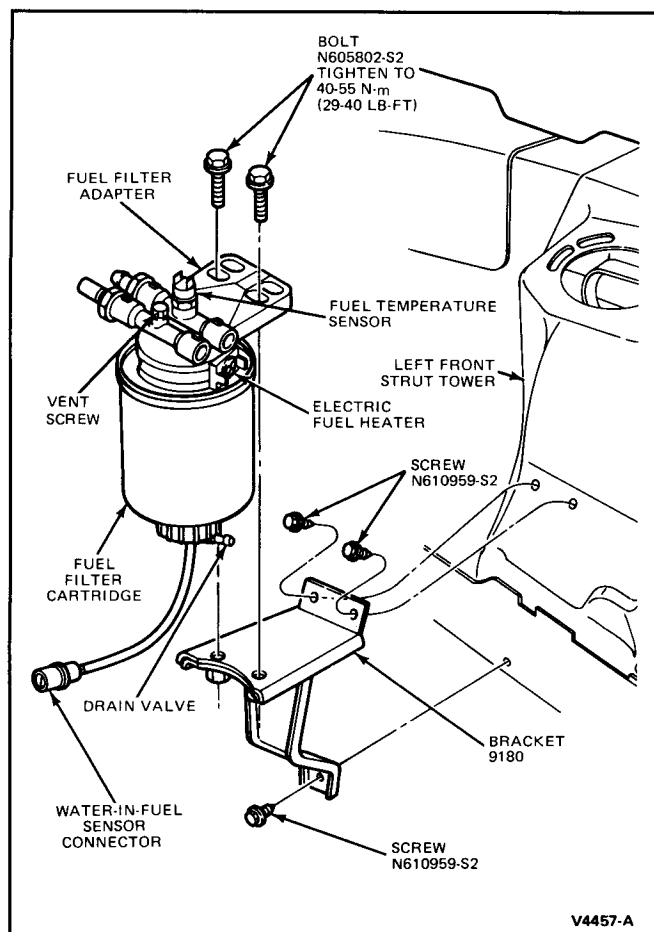

FIG. 1 Fuel Filter Assembly—Installation
The 2.4L Diesel engine uses a spin-on cartridge-type fuel filter. The filter assembly is mounted on a bracket on the LH strut tower in the engine compartment (Fig. 1). The filter is used to provide a clean supply of fuel to the injection pump and to separate water from the fuel. A fuel heater, used to warm the fuel during cold weather, is built-in to the fuel filter housing. The removal and installation of the fuel heater and service procedures are described in Section 25-55.
2. Disconnect the Water-in-Fuel sensor connector (Fig. 1).